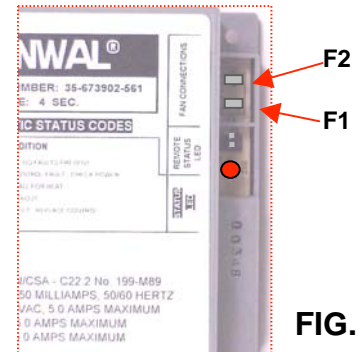

FIG. 2
7. Locate the new ignition control on the left side will of the control compartment as close to the front as possible. See **FIG. 1**. This will allow easier access to the F1 and F2 posts as well as the ability to view the LED status light. See **FIG. 2**.
8. Mark the spots (2) for the mounting holes.